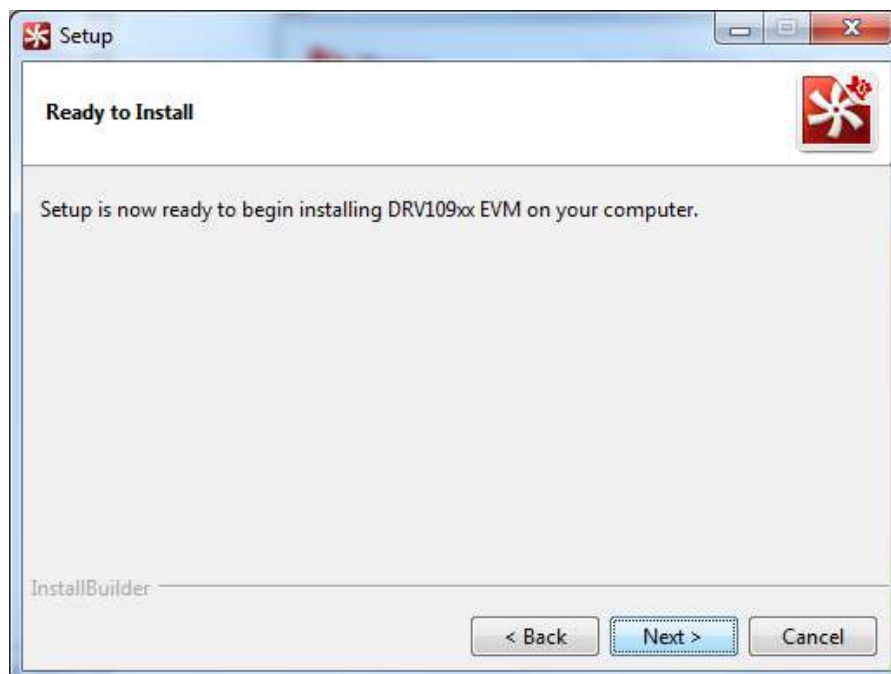

Figure 20. GUI Start Installation
5. The *Ready to Install* window appears next as shown in Figure 20. Click the *Next >* to begin installation.